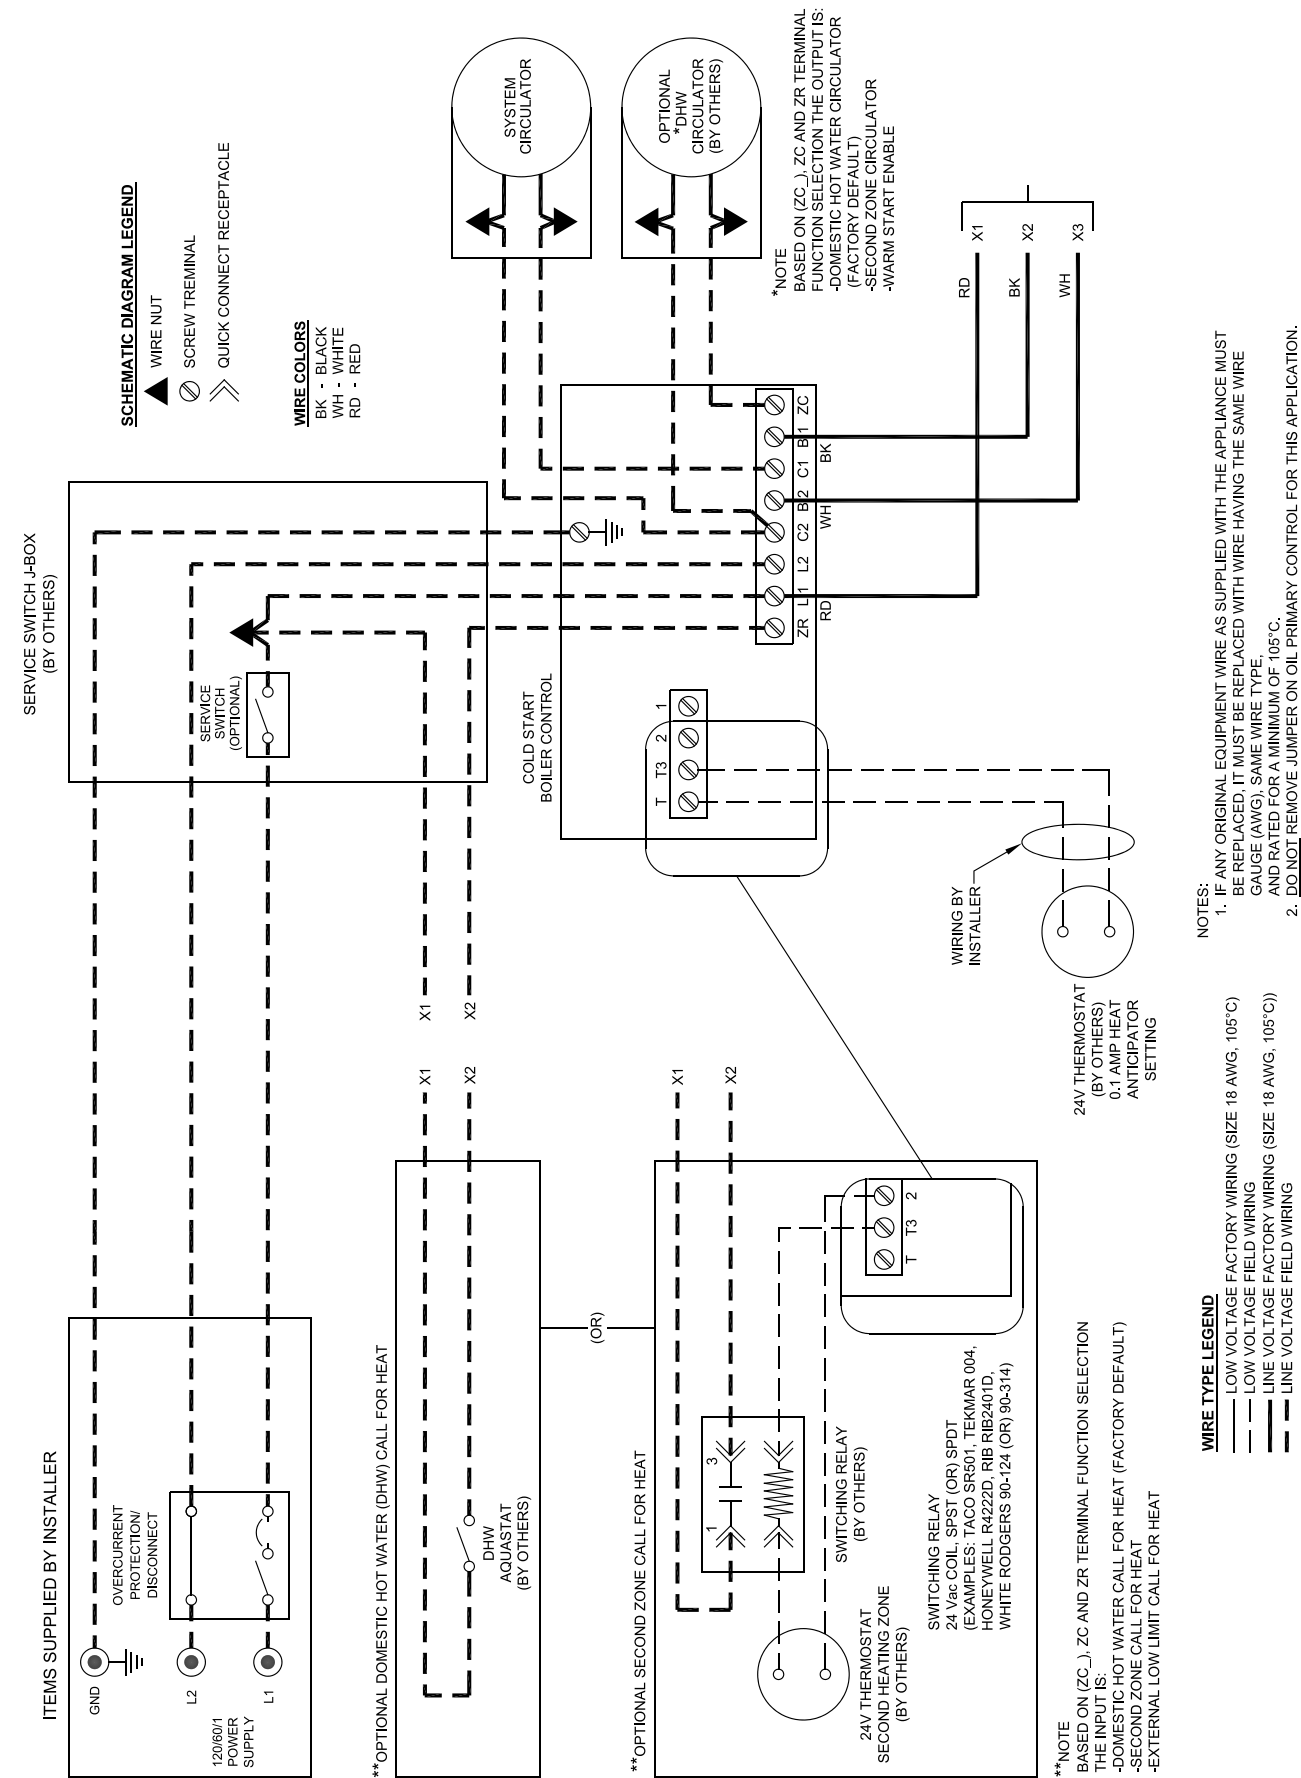

Figure 1: Schematic Wiring Diagram, without Tankless Heater, Cold Start Control (All Burners)
5. Use armored cable (BX) over all exposed line voltage wiring.
7. Wiring should conform to Figures 1 through 3.